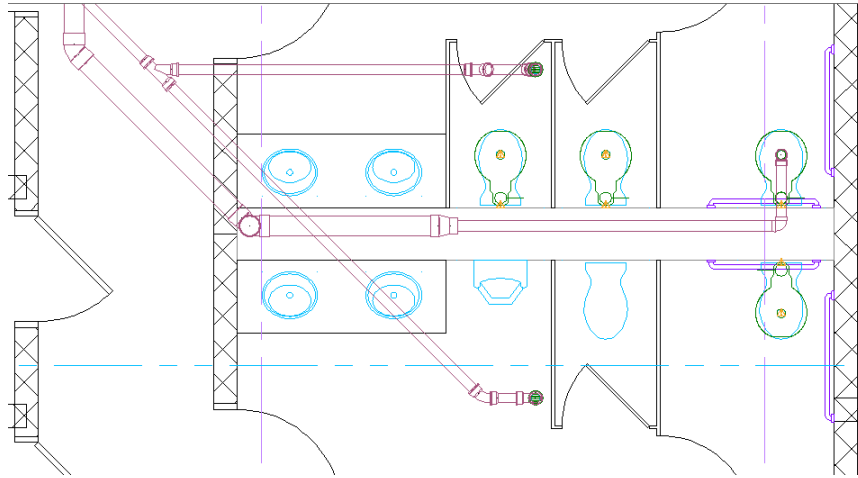

Figure 6.67
47. Click the next point in the hallway at 45°, and then click the final point outside the building by the drain pipe (see Figure 6.67).